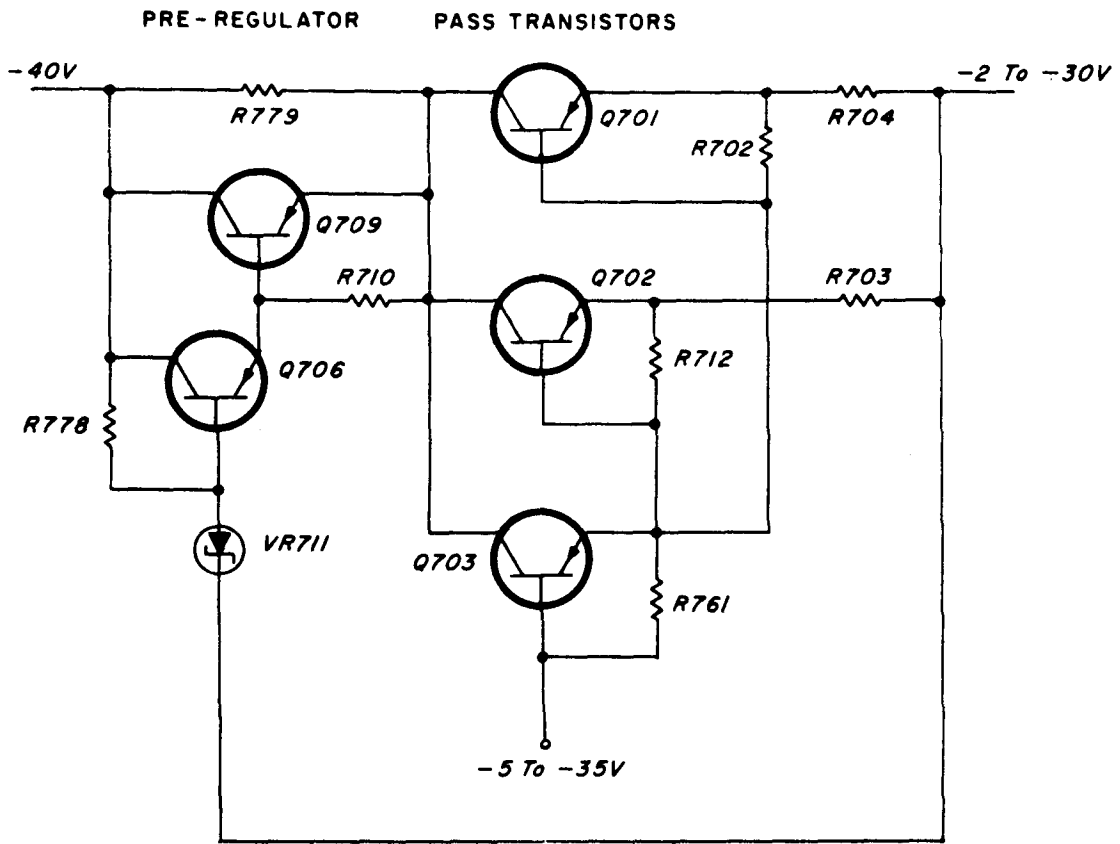

Figure 10. Pre-Regulator and Pass Transistors, Simplified Schematic
d. Pre-regulator. The pre-regulator (figure 10) maintains at a low level the voltage dropped across pass transistors Q701 and Q702. Thus, the power dissipated across these transistors is limited. At high-voltage levels, the power dissipated could burn out the transistors.